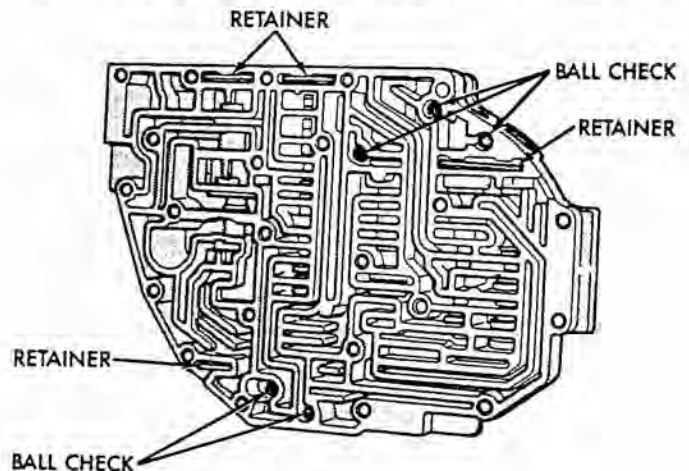

Fig. 13 Ball Check Location
(7) Remove valve body check balls. Note the location of valve body check balls (Fig. 13).